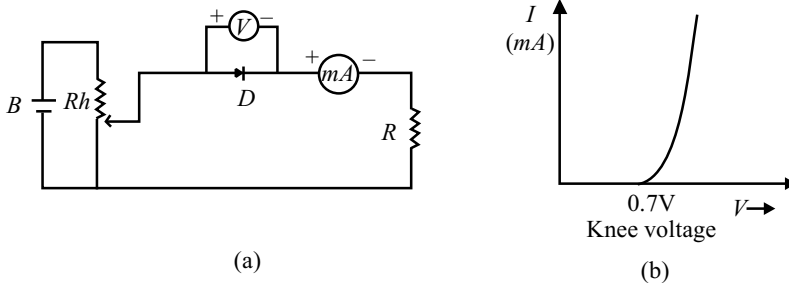
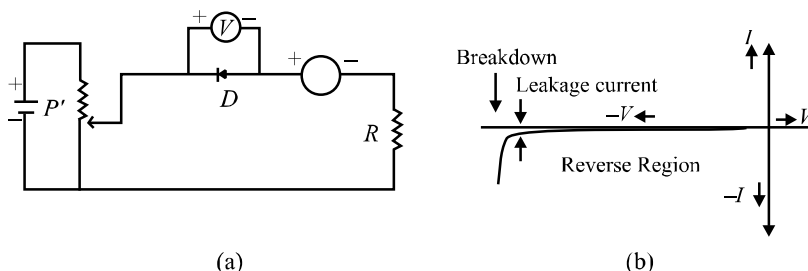

Fig. 28.10 : (a) Circuit diagram I - V characteristics of a p - n junction diode in forward bias, and (b) typical characteristics curve.
Fig.28.11 : a) Circuit diagram to obtain I - V characteristics of a p - n junction in reverse bias, and b) reverse bias characteristic curve
Refer to Fig. 28.10(a). You will note that to draw forward bias characteristic of a p - n junction diode, the positive terminal of a battery (B) is connected to p -side of
The I - V characteristic curve of a p - n junction in forward bias is shown in Fig. 28.10(b).
To draw reverse bias characteristics of a p - n junction, we use the circuit diagram shown in Fig. 28.11 (a). If you compare it with Fig. 28.10(a) for forward I - V characteristics, you will note two changes:
A typical I - V characteristic curve of a p - n junction in reverse bias is shown in Fig 28.11(b).
Note that the junction current is comparatively much less in reverse bias for all voltages below the breakdown voltage. And at breakdown voltage, the current increases rapidly for a small increase in voltage. Moreover, comparison of Fig. 28.10(b) and 28.11(b) reveals that a p - n junction diode offers low resistance when it is forward biased and high resistance when reverse biased. At the breakdown voltage in reverse biased p - n junction diode, the sharp increase in reverse current is due to sudden decrease in resistance offered by the junction.